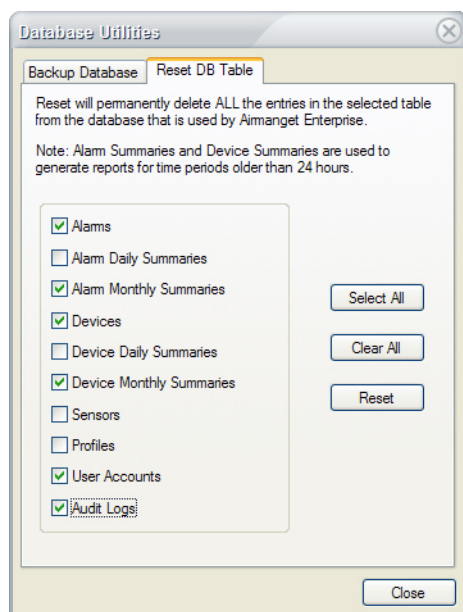

Figure 4-59: Selecting database tables
- 3) Select the database table or tables to be cleaned up. See Figure 4-59.